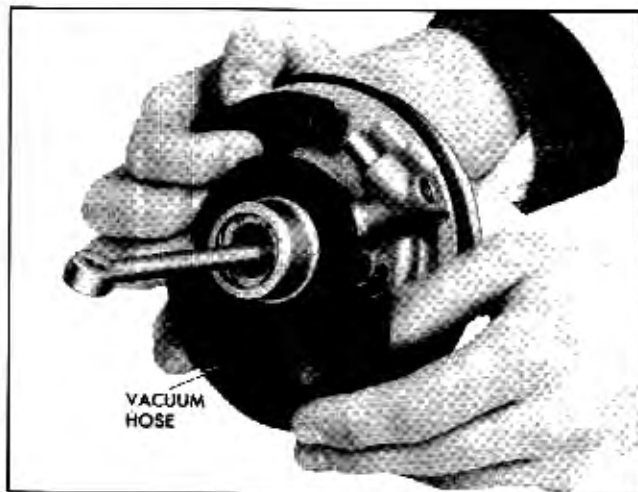

Fig. 5-52 Removing or Replacing Vacuum Hose at Power Piston
1. Remove vacuum hose from power piston assembly if it is to be replaced. **NOTE:** Hose is cemented to tube (Fig. 5-52).